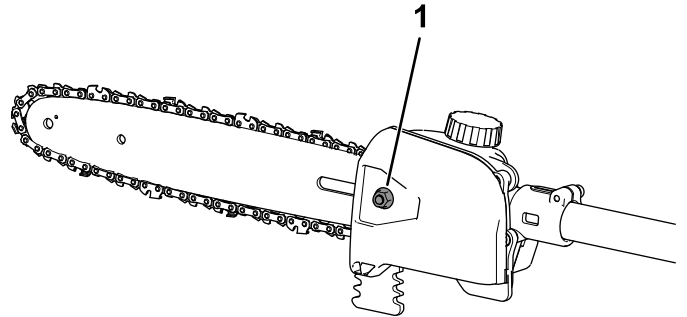
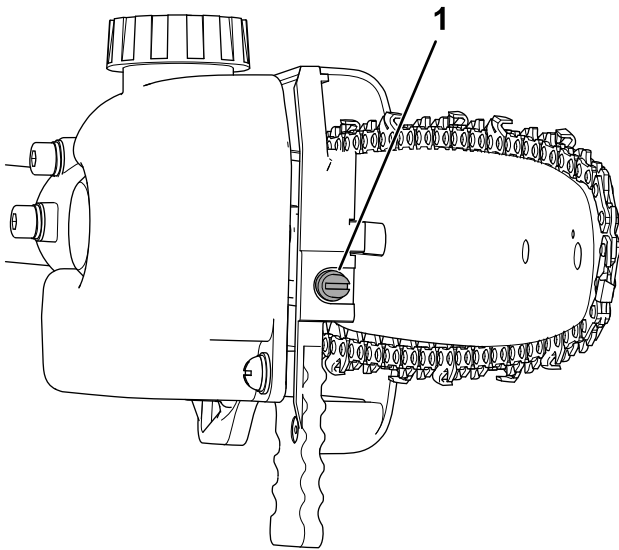

Figure 13
Figure 14
4. Turn the bar cover screw counterclockwise to loosen the bar cover, but do not remove it (Figure 13).
5. Adjust the chain tension using the chain tensioning screw (Figure 14), and then secure the side cover to the pole saw by turning the bar cover screw clockwise before checking the tension (Figure 13).
3. Loosen the chain by turning the chain-tightening screw counterclockwise (Figure 14).